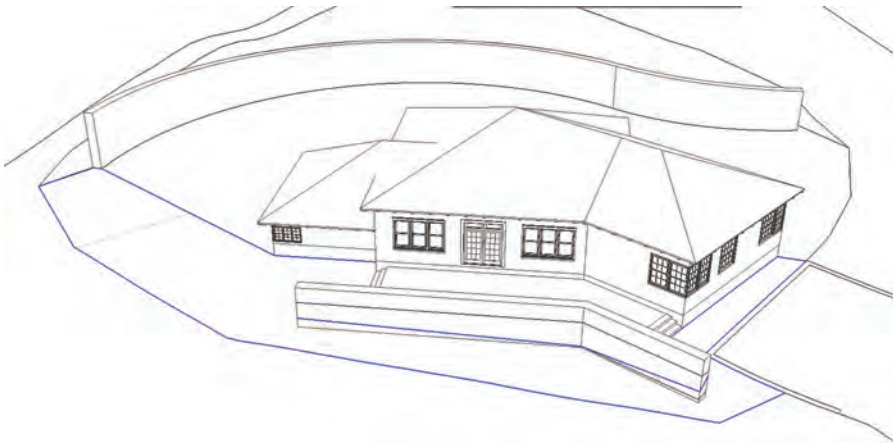

Fig. 15-28: The last profile around the drive, front wall, and steps is selected.
6. Select the last profile around the drive, front wall, and steps (Fig. 15-28).